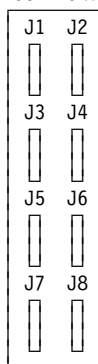

Figure 3-3. EPO Tailgate
- Step 3. \_\_\_\_ Connect the EPO cables (up to eight) to location 01S-A0 (see Figure 5-6 on page 5-9 for location, and Figure 3-3).